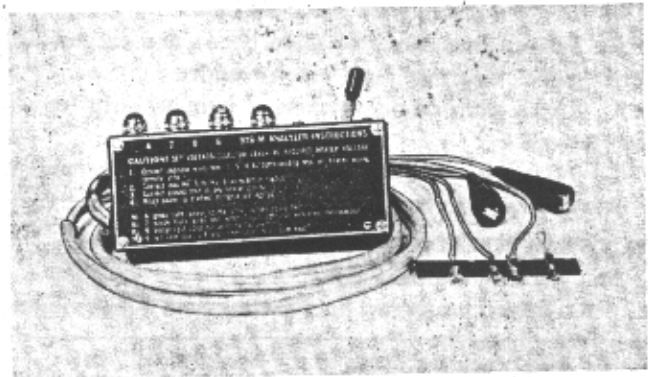

Figure 56—G-487890 Circuit Analyzer
3. As shown in Figure 56, the Model 978 Heater Circuit Analyzer consists of a metal case, in which are mounted four jewel lights. These lights are colored red, amber, white and green. Five test leads extend from the metal case, two equipped with alligator clips and the other three attached to a connecting strip, for connecting them to the various circuit elements in the heater.